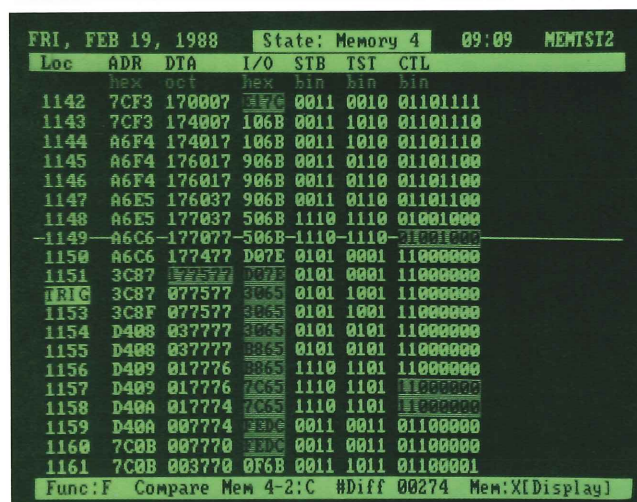

Figure 1. Typical state information display.
**Figure 1.** Block diagram of equipment setup in ATE lab at Purdue University — Kokomo. Programs developed on the student workstations are downloaded to the GPIB-based test system via RS-232-C.
Many tools have more than one purpose. The claw hammer, for example, was designed to pound nails and also to pull nails. Similarly, the logic analyzer is a multi-functional tool. One function, called either synchronous or state analysis, captures information from circuits under direction of a clock in the system being tested (analysis synchronized to the system clock). State analysis can be used, for example, to trace execution of software instructions in a computer's processing system. A typical state information display is shown in Figure 1.
Modular test instruments available include digital counters, digital multimeters, a digital delay unit, function generators, pulse generators, signal generators, an arbitrary/function waveform generator, signal amplifiers, audio oscillators, an audio-distortion analyzer, oscilloscopes, oscilloscope-calibration instruments, power supplies, programmable scanners, D/A and A/D converters, a user-configurable development card, and blank plug-in kits for developing your own custom functions. Power for the modular instruments is provided by a variety of TM 500/TM 5000 mainframes — from single to six compartment, manual or programmable — which can be matched to your application and need (see Figure 1).